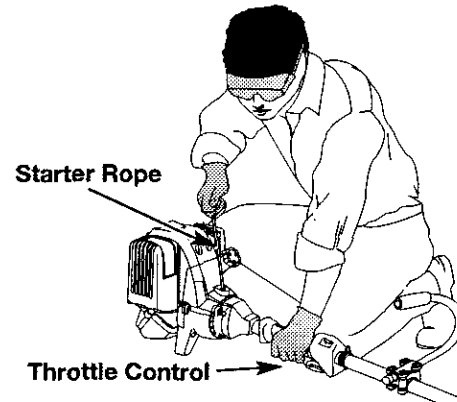

Fig. 10
7. With the unit in the starting position (Fig. 10) pull the starter rope briskly 5 times in the **FULL choke (A) |←|** position. If the engine attempts to run before the fifth pull, proceed to step 8.
5. With the unit in the starting position (Fig. 10), pull the starter rope briskly until the engine starts.
6. When the engine starts, move the choke lever to the **RUN (C) |→|** position, and run at full throttle for 30 seconds.
1. Release your hand from the throttle control (Fig. 10). Allow the engine to idle.